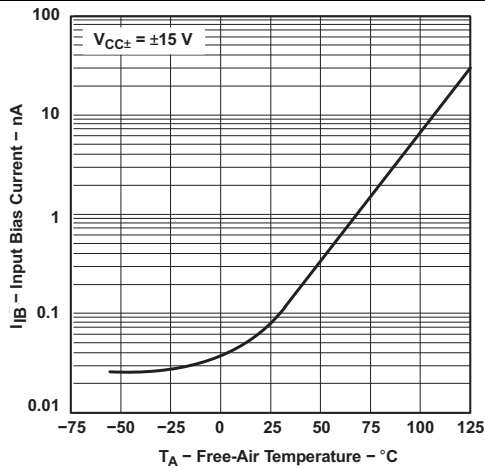

Figure 1. Input Bias Current vs Free-Air Temperature
- (1) All characteristics are measured under open-loop conditions with zero common-mode voltage, unless otherwise specified.
(3) Input bias currents of an FET-input operational amplifier are normal junction reverse currents, which are temperature sensitive, as shown in Figure 1. Pulse techniques must be used that maintain the junction temperature as close to the ambient temperature as possible.
- (1) Input bias currents of an FET-input operational amplifier are normal junction reverse currents, which are temperature sensitive, as shown in Figure 1. Pulse techniques that maintain the junction temperature as close to the ambient temperature as possible must be used.
- (2) All characteristics are measured under open-loop conditions with zero common-mode voltage, unless otherwise specified. Full range is $T_A = -55^\circ\text{C}$ to $+125^\circ\text{C}$.